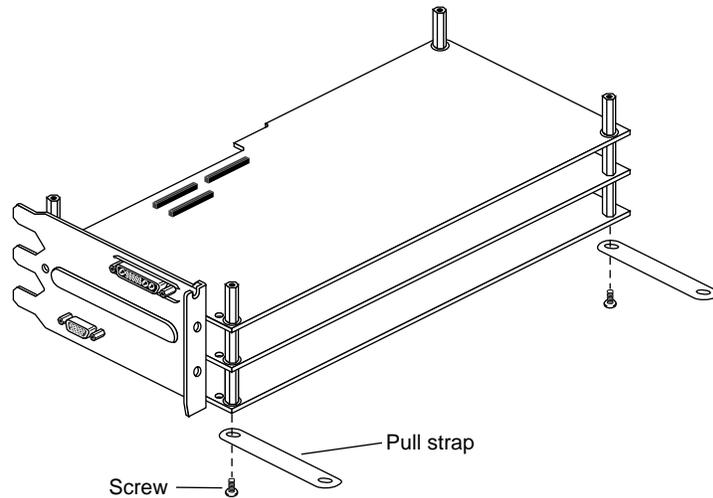

Figure 2-17 Removing the Screws That Attach the Pull Straps
5. Remove the screws that attach the pull straps to the bottom of the graphics board set (Figure 2-17). You can throw away the pull straps.